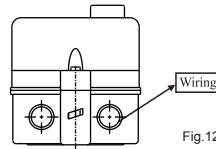

Fig.12
- Before installation, wiring holes in the housing shall be punched through for easy wiring, as shown in Fig.12;